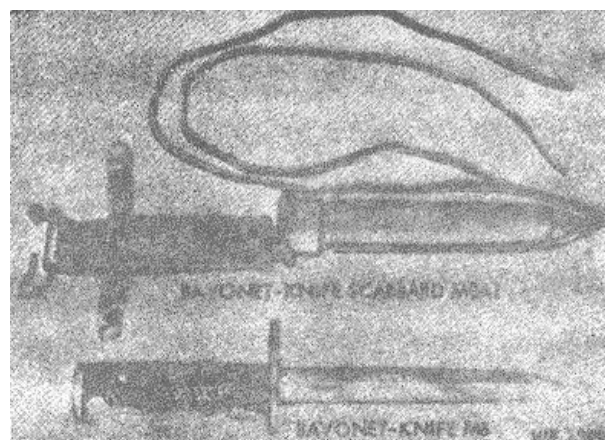

Figure 1-11. Bayonet-Knife M6 end Scabbard M8A1.
d. Bayonet-Knife, M6 (fig. 1-11) is used in conjunction with Rifle, M14 for close combat. It connects to the bayonet lug of the flash suppressor and a close loop in the handle encircles the flash suppressor.
e. The Bayonet-Knife Scabbard, M8A1 (fig 1-11) serves as a carrier for the bayonet-knife when it is not installed to the rifle.